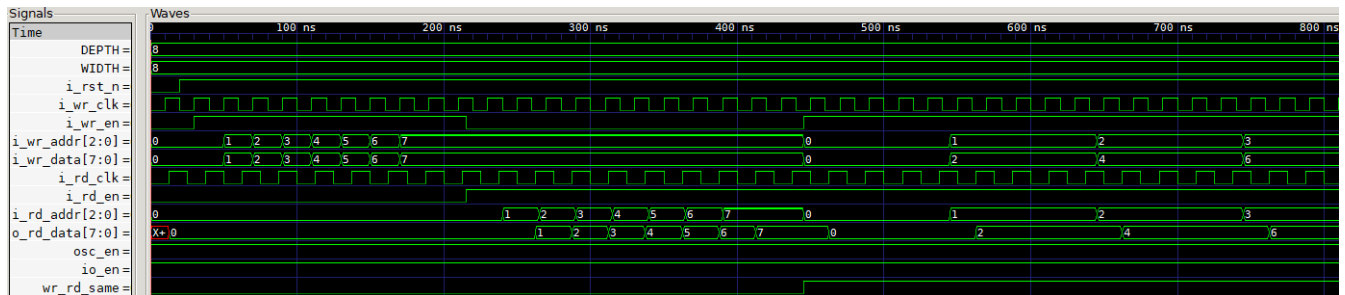

Figure 2: Functional Waveform in GTKWave
Using the ForgeFPGA Workshop software, the Verilog code was synthesized, and the bit stream was loaded on to the SLG47910V device. The functional waveforms below (see Figure 2) show the data write to address 0~7 and the read-out data from address 0 to 7.
9. In the GTKWave software, select the signals you want to view and Click Insert on the left corner to insert the signals in the wave window. Once the desired signals are selected, click on Reload (Figure 2).